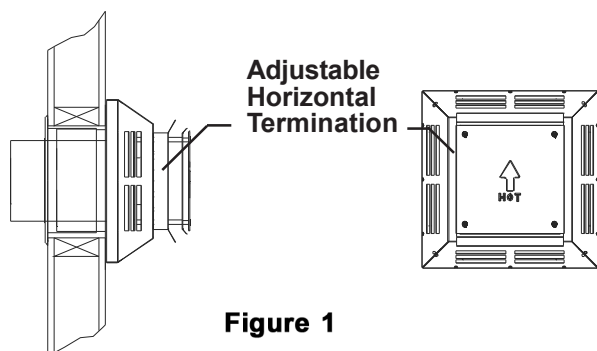

Figure 1
2. Install the Horizontal Termination (DAHCS) to the exterior wall using 4 all-purpose screws through the holes located at each corner of the termination. Make sure the arrow (embossed on the front of the termination) is pointing up (see Figure 1). If the house has vinyl siding, a vinyl siding standoff